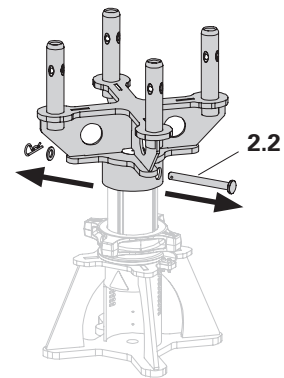

Fig. A1.02b
3. Remove the connecting bolt (**2.2**). Connection plate slides down and spherical piece (**2.1**) is positioned on the spindle tube. (Fig. A1.02b)